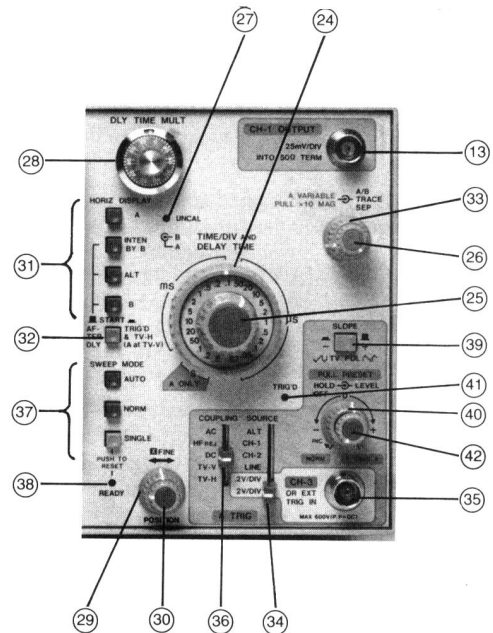

Figure 2-3.
Refer to Figure 2-3 for reference (13).
Refer to Figure 2-3 for reference (24) to (42).